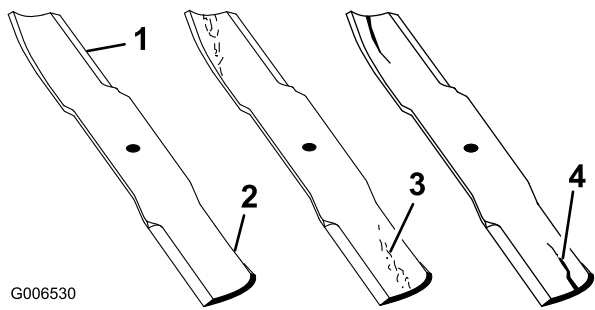

Figure 31
2. Examine the cutting ends of the blade carefully, especially where the flat and curved parts of the blade meet (Figure 31). Since sand and abrasive material can wear away the metal that connects the flat and curved parts of the blade, check the blade before using the machine. If wear is noticed (Figure 31), replace the blade; refer to Removing the Cutting Blade.
If the blade is allowed to wear, a slot will form between the sail and flat part of the blade (Figure 31). Eventually, a piece of the blade may break off and be thrown from under the housing, possibly resulting in serious injury to yourself or bystanders.